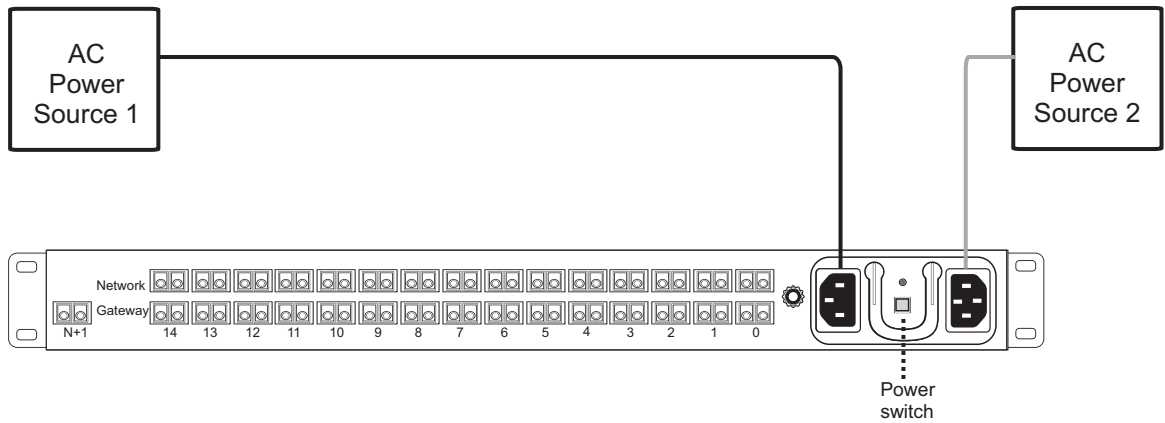

Figure 6.4 AC Power Connection
1. Connect an AC power cable between the AC connector of the 7800 N+1 Patch Panel and an AC supply. See figure 6.4 on page 48.